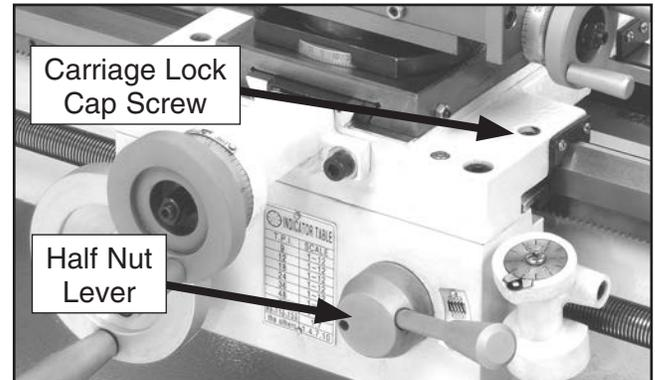

Figure 63. Carriage lock and feed control.
8. Loosen the carriage lock (see **Figure 63**), and push down on the half nut lever to engage the power feed.
8. Loosen the carriage lock (see **Figure 63 on Page 45**).